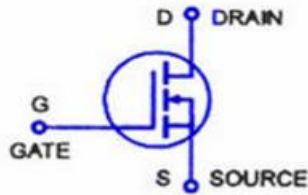

Fig. 4.22 Symbol of n-channel E-MOSFET
- Fig. 4.22 shows the schematic symbols for n-channel E-MOSFET.